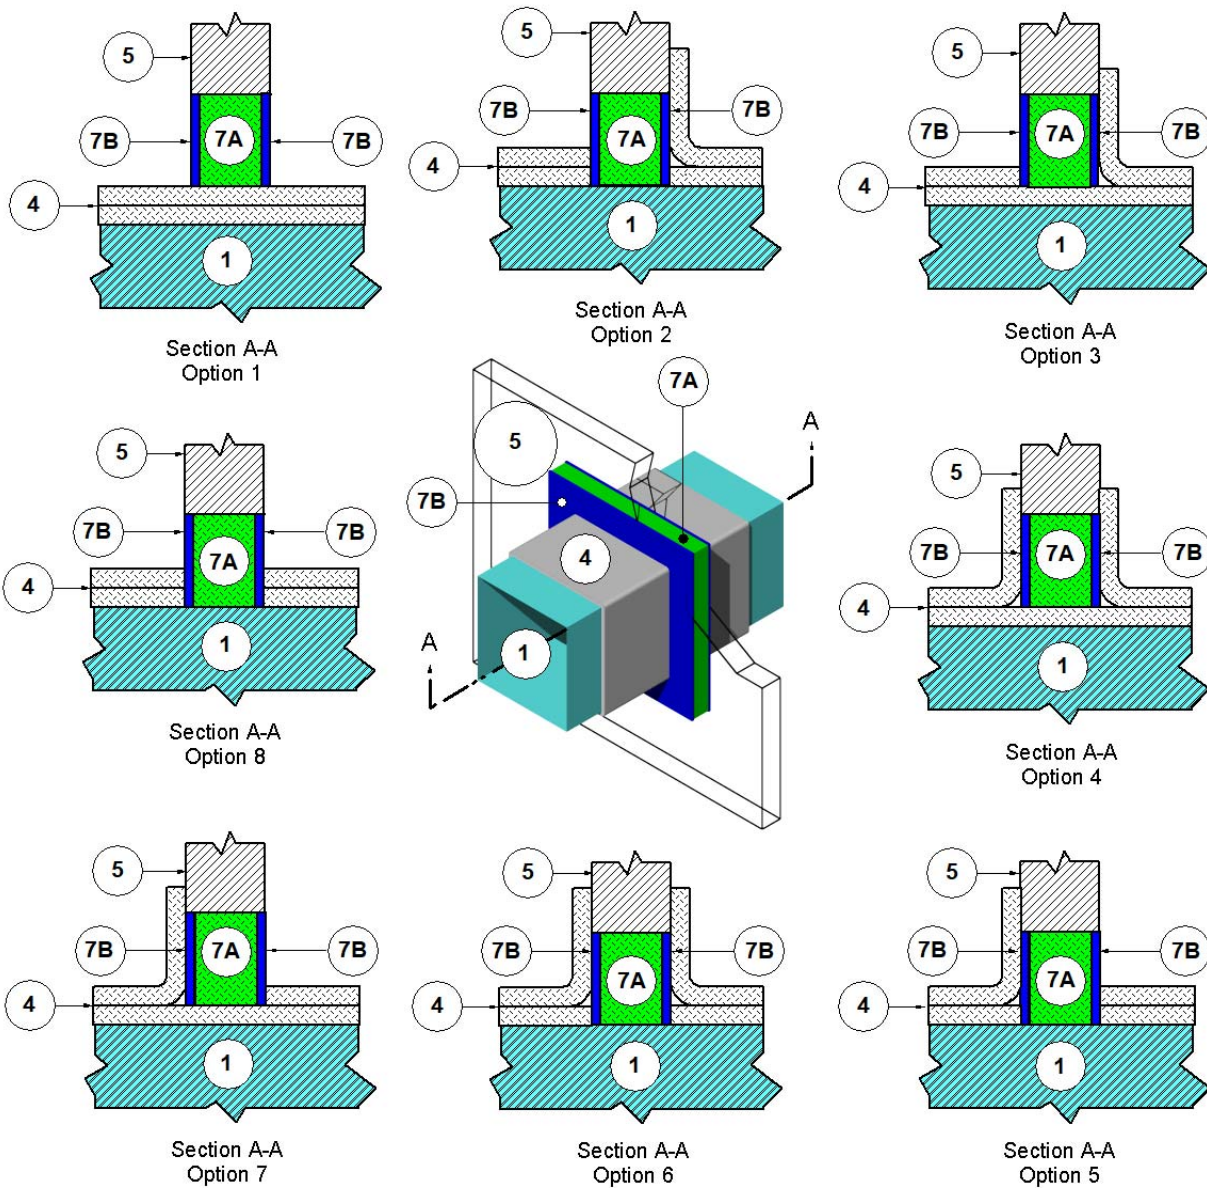

Figure 2. Penetration Firestop Systems – Wall Penetrations
- Wall Penetration Firestop Options 2, 5, 6 and 8 (Refer to Figure 2): locate a row of pins on both sides of the wall assembly.